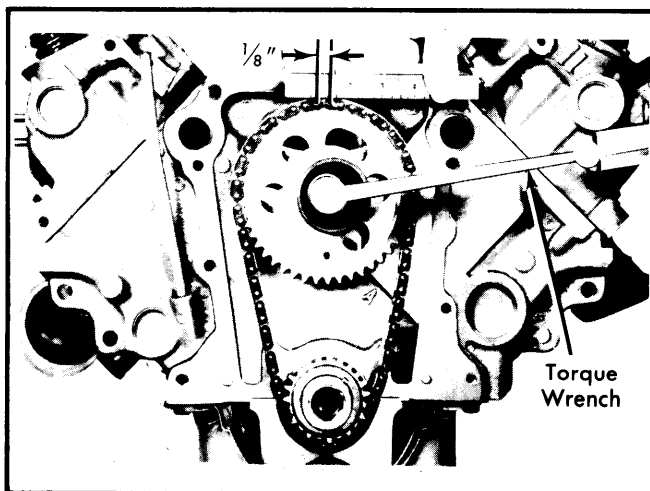

Fig. 13 Measuring Timing Chain Stretch
**Checking For Stretch** — 1) Position scale next to timing chain to measure any movement of chain, See Fig. 13. Place torque wrench with socket over camshaft sprocket lock bolt and apply torque in direction of crankshaft rotation to remove slack. Torque should be 30 ft. lbs. with cylinder heads installed or 15 ft. lbs. with cylinder heads removed.